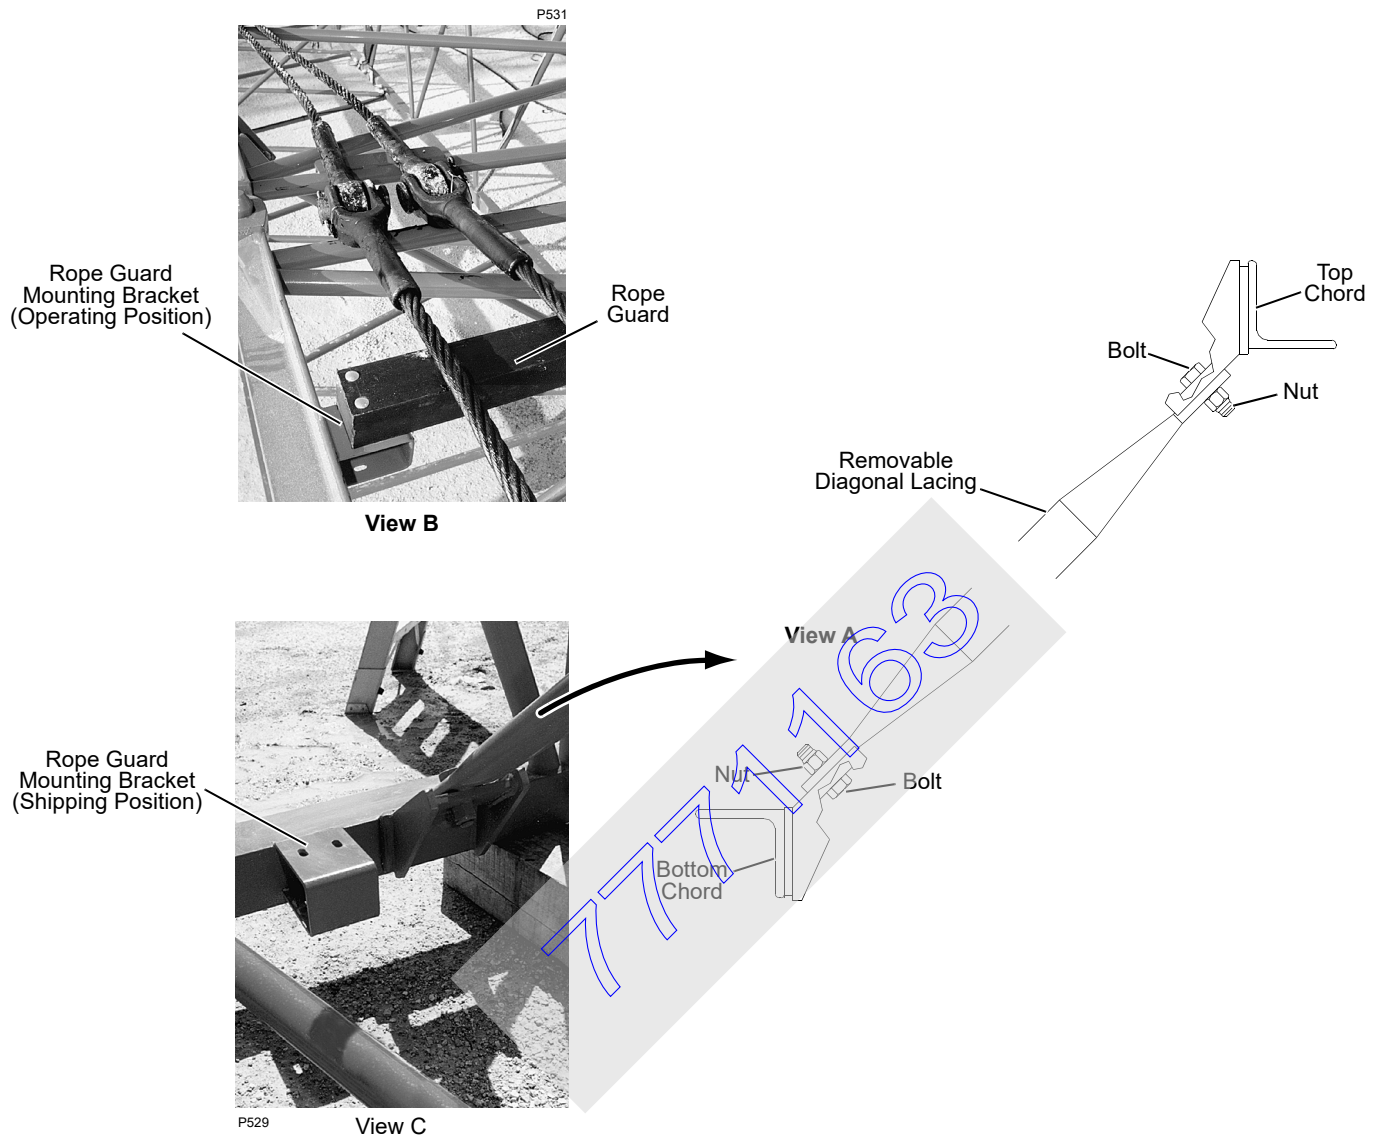

FIGURE 4-27
See Figure 4-27 for following procedure.
1. If not already done, install rope guards on top of boom sections as shown in Figure 4-27, View B. See Table 4-2